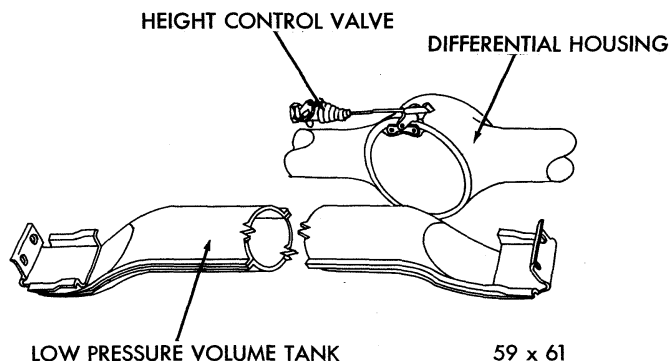

Fig. 11 — Low Pressure Volume Tank
**LOW PRESSURE VOLUME TANK (Fig. 11)**